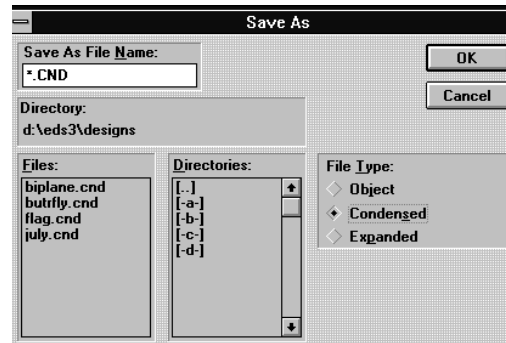

Figure 6-4
2. Click on Save As in the drop-down menu. The Save As dialog box displays as shown in Figure 6-4.